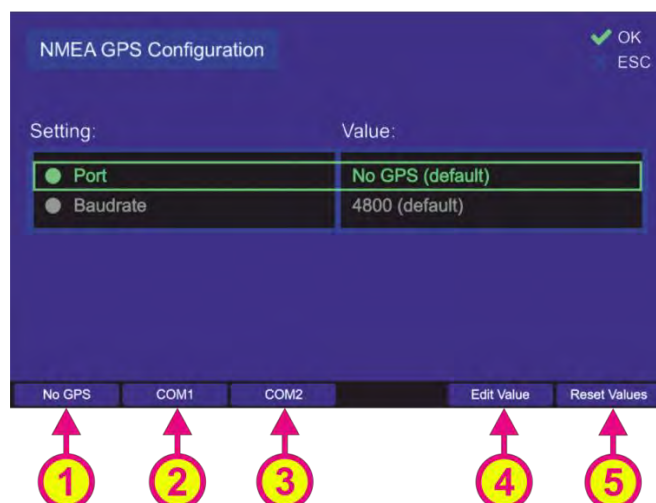

Fig. 156 NMEA GPS configuration settings
Following sub-menu will appear (s. Fig. 156).
- Pressing the hotkey “Reset Values” (s. Fig. 156, position 5) will set all menu items to default values.
- In order to change this setting, press the hotkey “Edit Value” while the menu item “Port” is marked (s. Fig. 156). The corresponding sub-dialog will be opened (s. Fig. 155).
- To change the baud rate, press the hotkey “Edit Value” while the menu item “Baudrate” is marked (s. Fig. 156). The corresponding sub-dialog will be opened (s. Fig. 158).